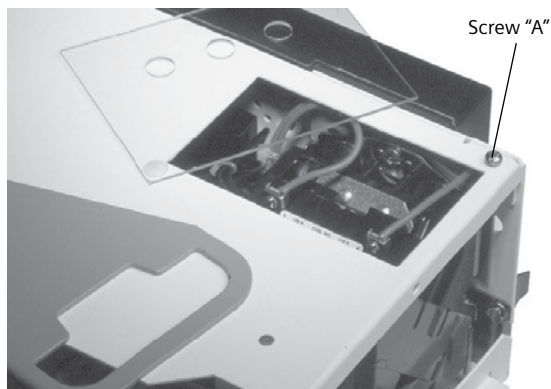

Figure 64
3. Rotate the cover as shown in Figure 64 around the pivot point.